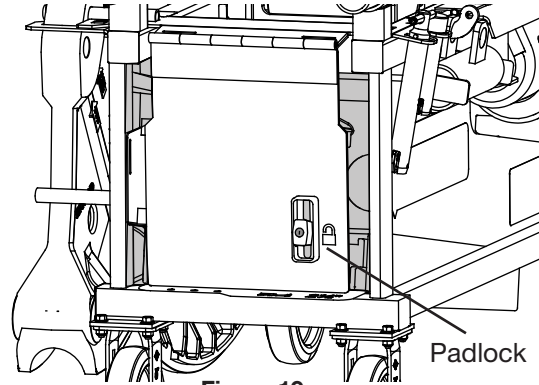

Figure 19
- Follow bars and any items in the Misc. storage shelf (such as pins) are secured by swinging the forward tray downwards and padlock through the slot in the tray. (Fig. 19)